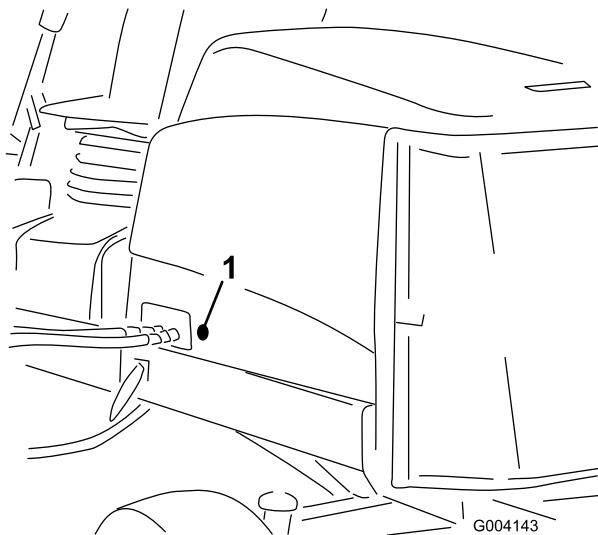

Figure 4
2. Remove the rubber grommet from the hole in the left side of the hood (Figure 4).